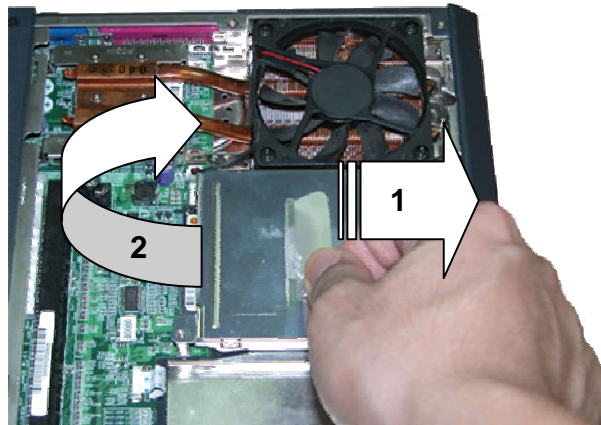

Fig. 5 Removing HDD module
2. Carefully pull the HDD module out from the base unit as shown in Fig. 5 .